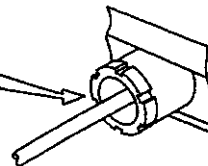

FIG. 4.4 ASSEMBLING PROCEDURE FOR CABLE
- 2) The cable ground is removed, and the cable ground and the gasket are inserted in the cable with the connector . (Refer to FIG 4.4)